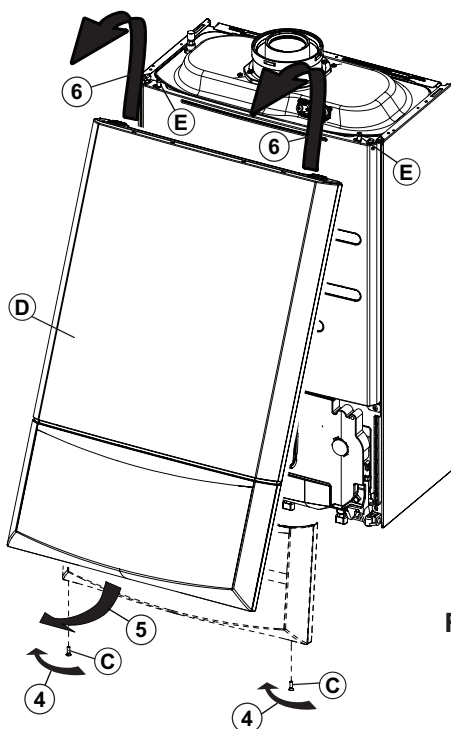

Fig. 7.2
Case front panel - Fig. 7.2
10. Refit the case front panel in position over the top pins and push it back against the side panels, then press around the button/display area to snap the cover to the control panel and secure in position with the two screws (Fig. 7.2).